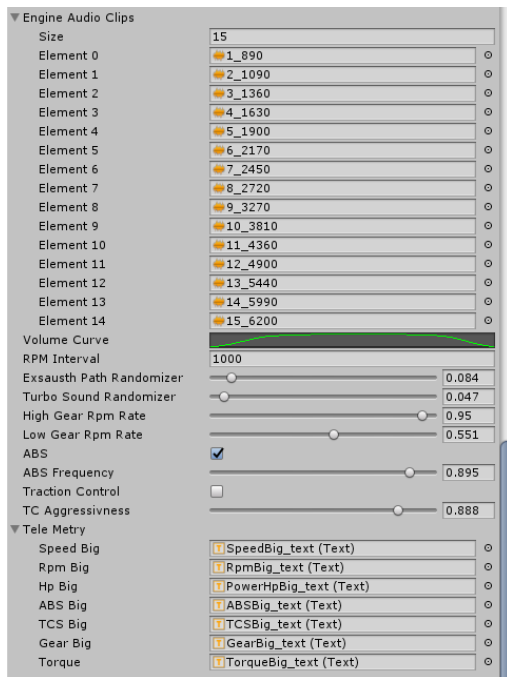

Figure 16 : Engine sound, ABS-TCS and Telemetry Section.
- You must record (or find) engine sound at different rpms with 1000 max interval (bigger intervals are also supported but it will decrease your engine sound quality). Name the files as shown in Figure 16. **Please keep in mind that your max and min rpm values will be determined by the sound file names. So, for the sound set shown in Figure 16 the min engine rpm will be 890 and the max rpm will be 6200.**
- **High and low gear rpm rates are very important parameters. They determines the gear shift RPM value for shift up and down. For the values shown in Figure 16; the shift down rpm will be $6200 * 0,551 = 3416$ and the shift up rpm will be $6200 * 0,895 = 5890$.**